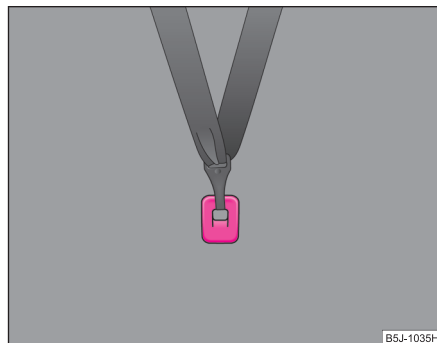

Fig. 132 Rear seat: Top Tether
On vehicles with divided rear seats* the exterior seats are equipped ⇒ fig. 132 with the attachment system "Top Tether" for enhancing the safety of the children when being transported.
- **Attach the child seats with the "Top Tether" system only to the points provided for this purpose ⇒ fig. 132.**